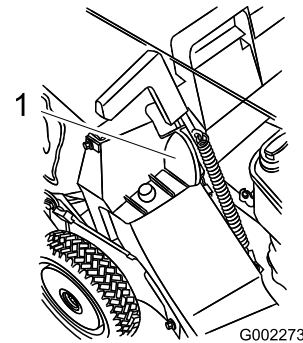

Figure 18
5. Pull the discharge door handle forward until the pin clears the catch, and move the handle rearward until the pin locks in the bag notch (Figure 18).